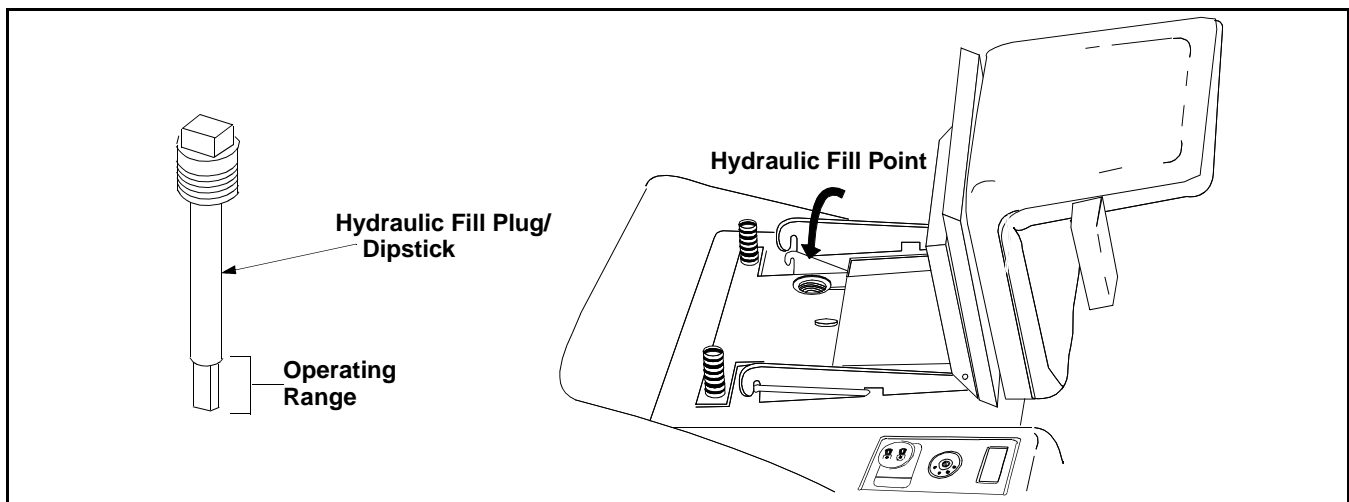

Figure 16
1. Flip seat up. (See Figure 16)
**Note:** When adding hydraulic oil, do so in small quantities and recheck the oil level before adding more. It is important that you do not over fill the reservoir. (See Figure 16)